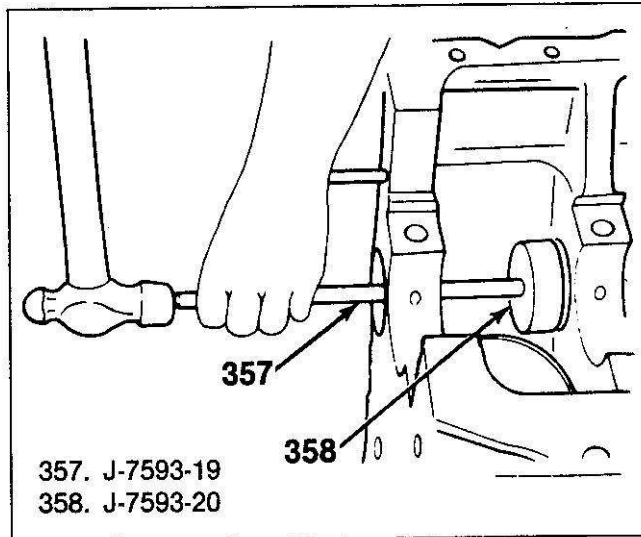

Figure 97. Removing or Installing the Camshaft Bearings
3. Remove the camshaft hole plug (181).
4. Remove the camshaft bearings (182), using tool J-7593-20 and tool J-7593-19 (figure 97).
5. Install the camshaft bearings to the block, using tool J-7593-20 and J-7593-19 (figure 97).